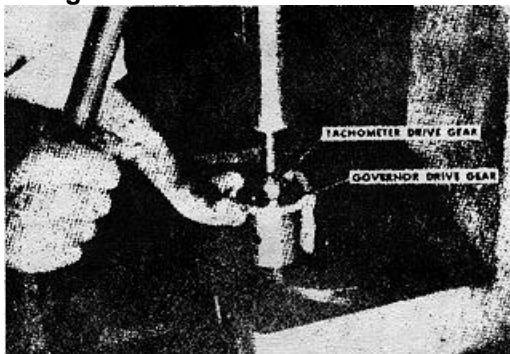

Figure 4-32. Pressing of drive gears
7. Press the tachometer drive gear and governor drive gear from the drive shaft. Fig. 4-32.